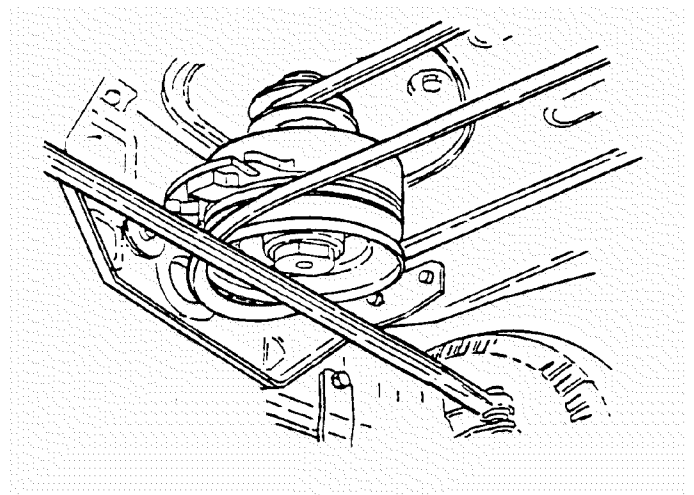

FIGURE 4.21
7. Remove deck drive belt from engine pulley bottom groove. See Figure 4.21.